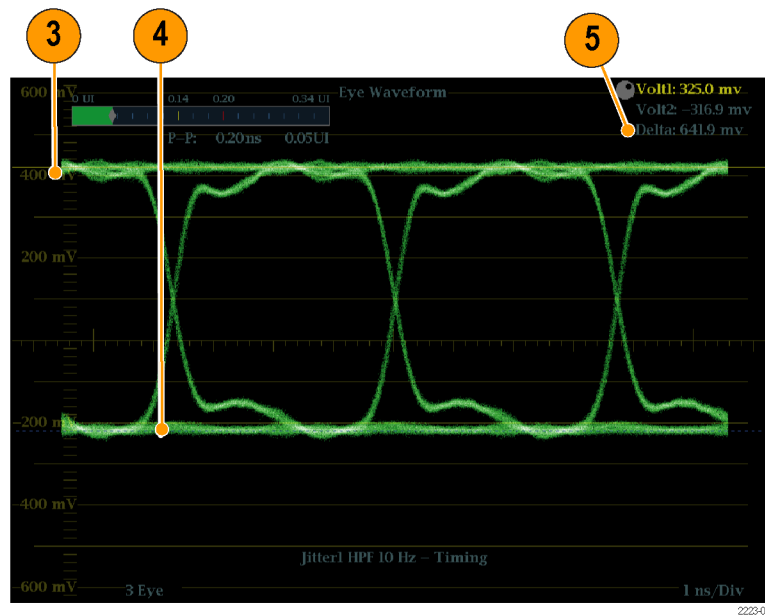

Figure 56: Eye measurement cursor placement
3. Position one voltage cursor at the top part of the waveform, ignoring any overshoot or undershoot on the rising or falling edges. (See Figure 56.)
4. Position one voltage cursor at the top part of the waveform, ignoring any overshoot or undershoot on the rising or falling edges. (See Figure 56.)
5. Note the amplitude of the eye waveform that is displayed in the Voltage Cursor readout. (See Figure 56.)